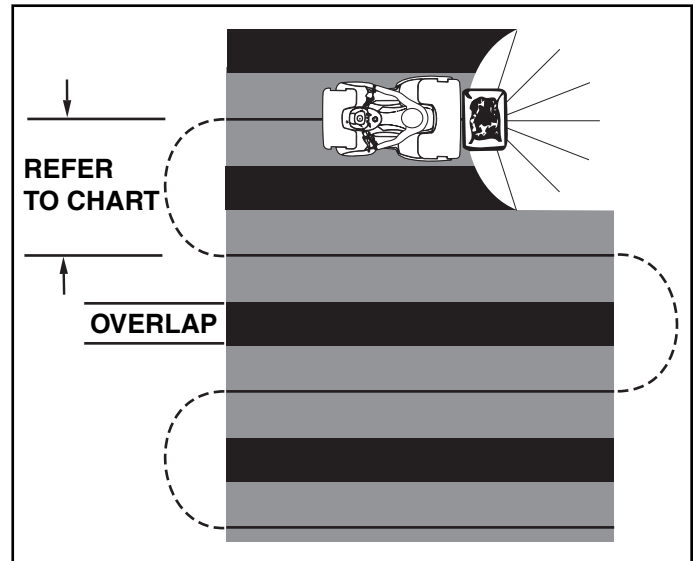

FIGURE 13
8. To insure uniform coverage, make each pass so that the broadcast pattern slightly overlaps the pattern from the previous pass as shown in figure 13. The approximate broadcast widths for different materials are shown in the application chart on this page.